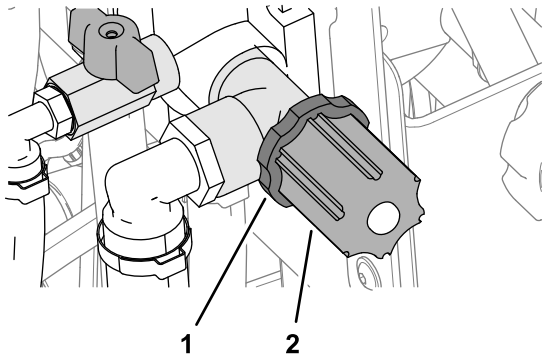

Figure 37
3. Loosen the locknut, and open the throttle valve (Figure 37).